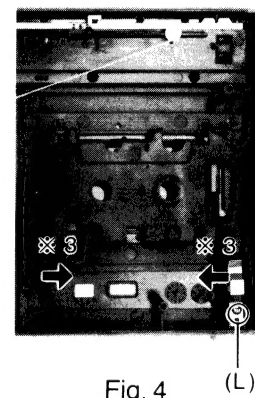

Fig. 4
- *3. Push the leg of cassette panel in the direction of arrows as shown in Fig. 4.